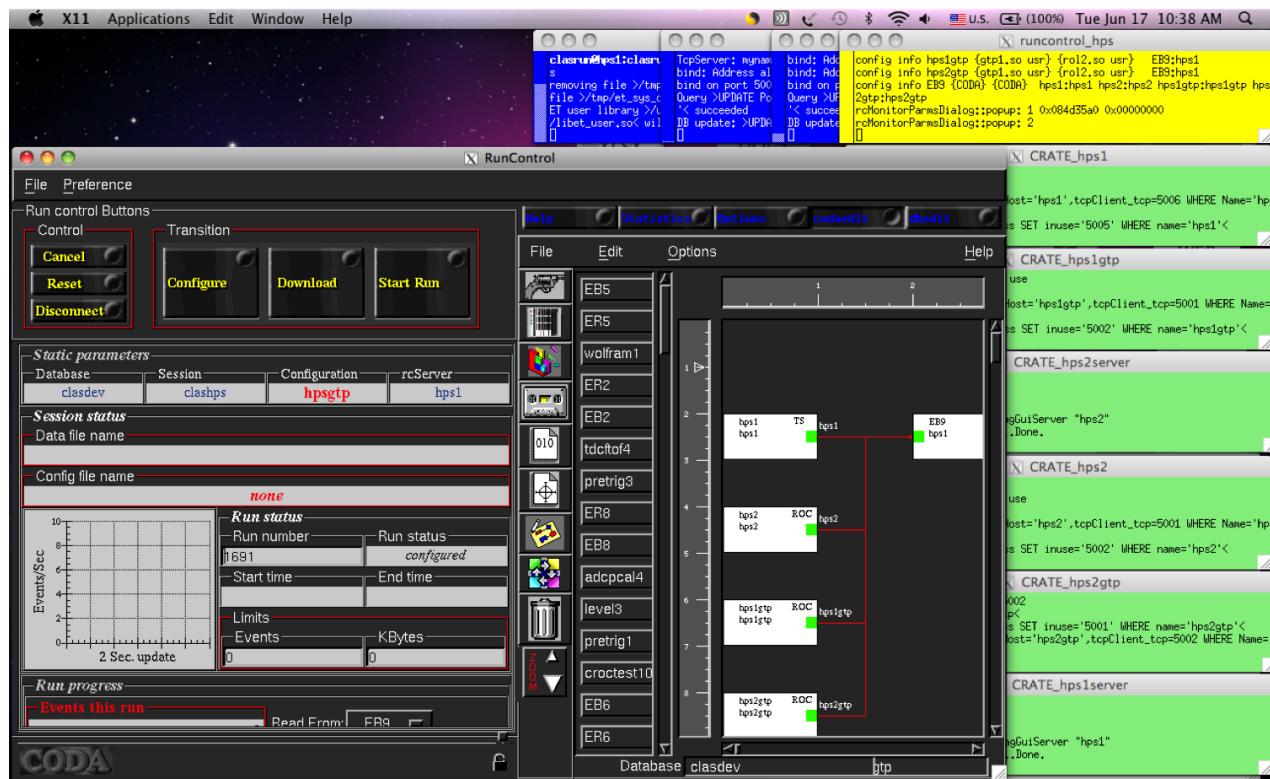

Figure 1: CODA workspace.
This opens up all windows needed on the current workspace. The workspace should look like Fig. 1.
This does not have to be done from the same terminal used for Section 2.1. Do not proceed with DAQ operations until all the windows in Fig. 1 have disappeared.
1. These two commands can be done in parallel (simultaneously) in two different terminals and will gradually kill all the terminals in Figure 1. Do not wait for them to finish before proceeding to the next step.